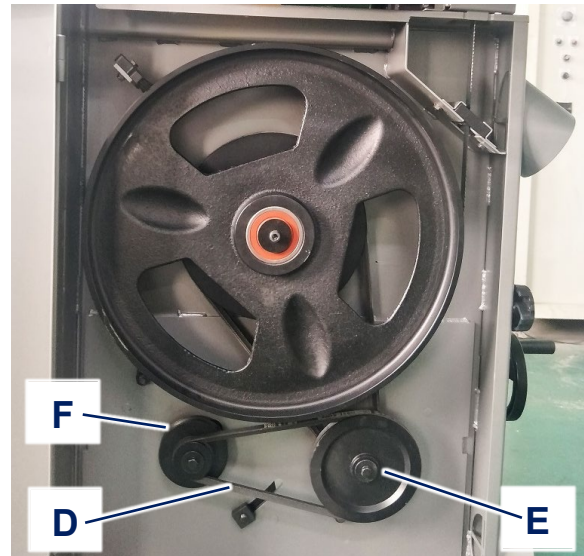

Figure 7-24
5. Remove the short Poly V-Belt A28 (D, Figure 7-24) and store for use when setting up for metal cutting.
6. Route the long Poly V-Belt 17-470 off of the inboard groove of the intermediate pulley (E, Figure 7.24) and onto the inboard groove of the motor pulley (F, Figure 7.24).
4. Route the long Poly V-Belt 17-470 off of the inboard groove of the motor pulley (F, Figure 7.24) and onto the inboard groove of the intermediate pulley (E, Figure 7.24).
5. Install the short Poly V-Belt A28 (D, Figure 7-24) into the outboard grooves of the intermediate and motor pulleys.